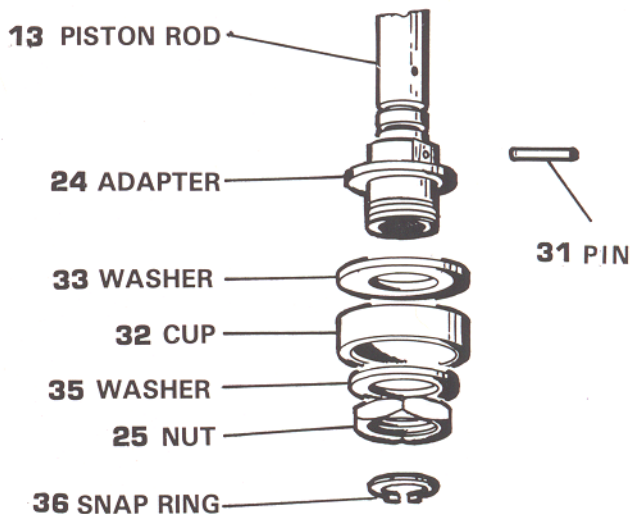

FIGURE 9
32. Remove **36** snap ring from **13** piston rod by using tru-arc pliers. (see Fig. 9)